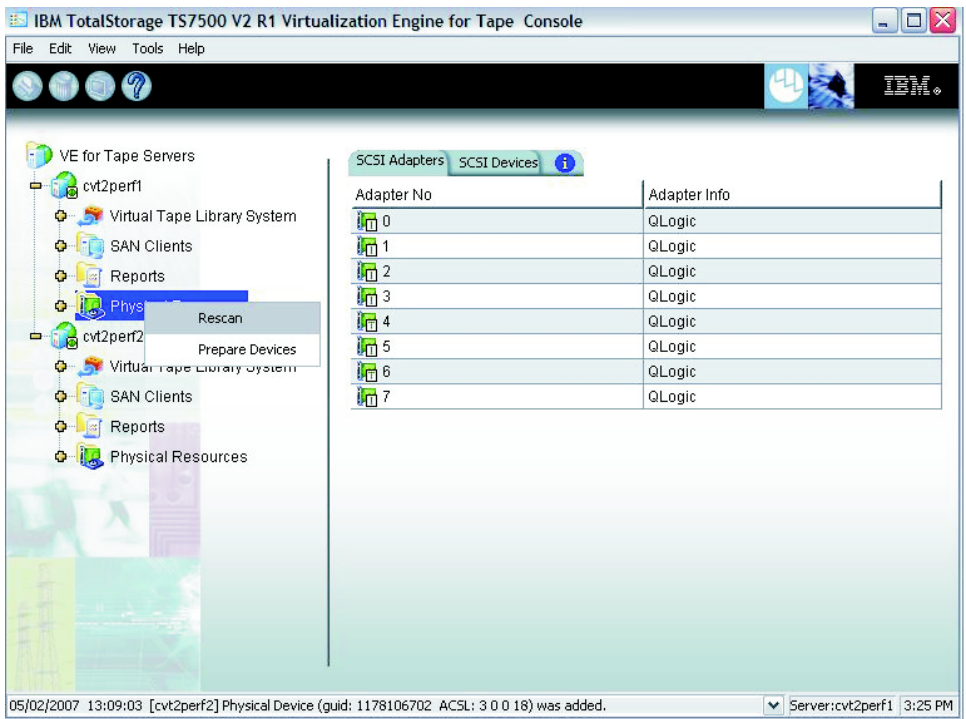

Figure 22. Rescanning physical devices
8. \_\_\_ In the VE console (Figure 22):
**Warning:** If the **Rescanning Physical Devices is required** window (Figure 22 on page 34) reopens, do not rescan. You **must** wait at least 10 minutes before rescanning again. If after rescanning a second time, the **Rescanning Physical Devices is required** window reopens, contact your next level of support.